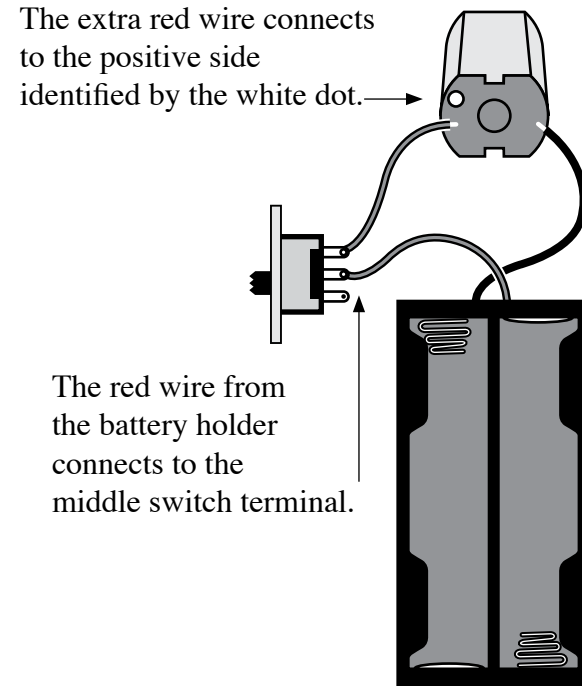

Figure 4
- Locate the slide switch. Take the red wire attached to the battery holder and solder it to the middle terminal on the back of the slide switch (Figure 4).